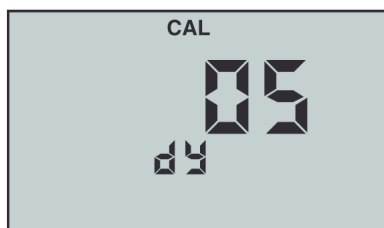

Figure 15
9. Press $\frac{CAL}{MCLR}$ to accept the change (new day) (see Figure 15).